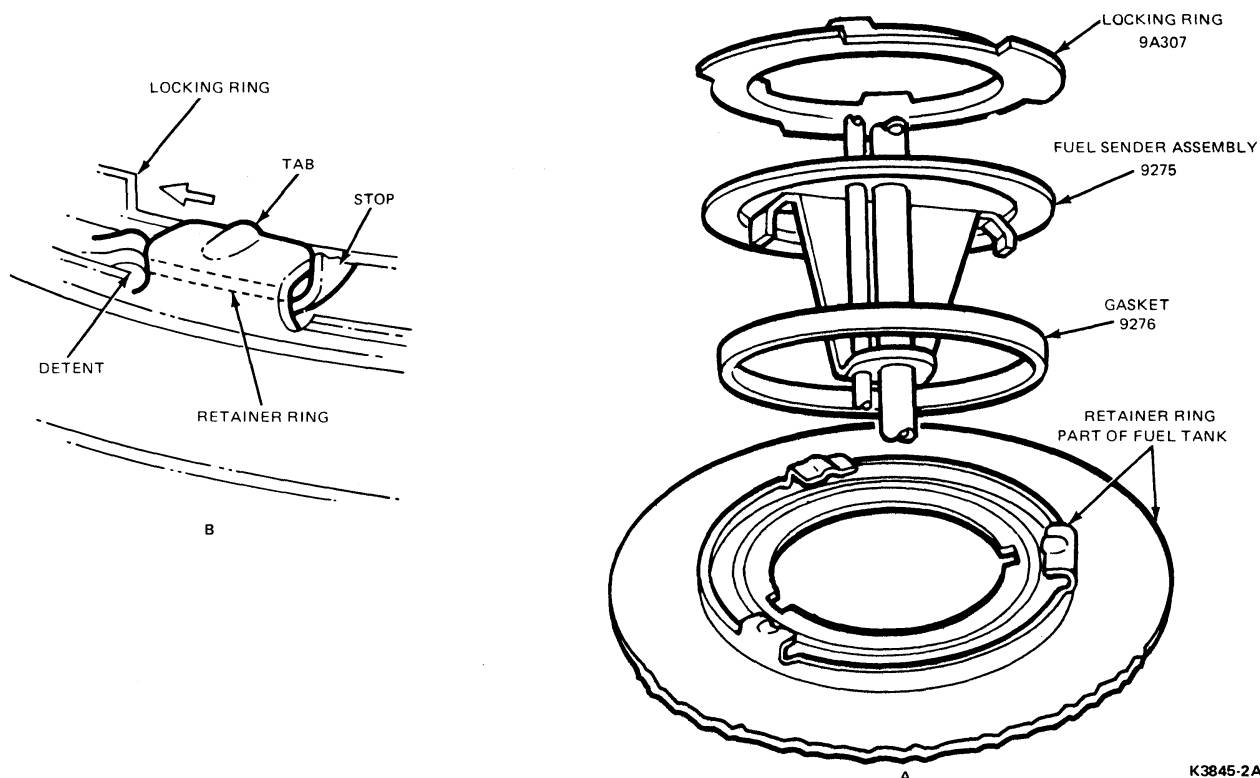

FIG. 3 Fuel Tank Sender Installation (Metal Lock Ring Type)
the tabs of the sender are positioned into slots of the fuel tank. The sealing gasket must remain in place during and after fuel sender installation (Fig. 3-A).
8. Holding the fuel sender and sealing gasket in place, install and rotate the locking ring clockwise until the stop is against the retainer ring tab (Fig. 3-B).